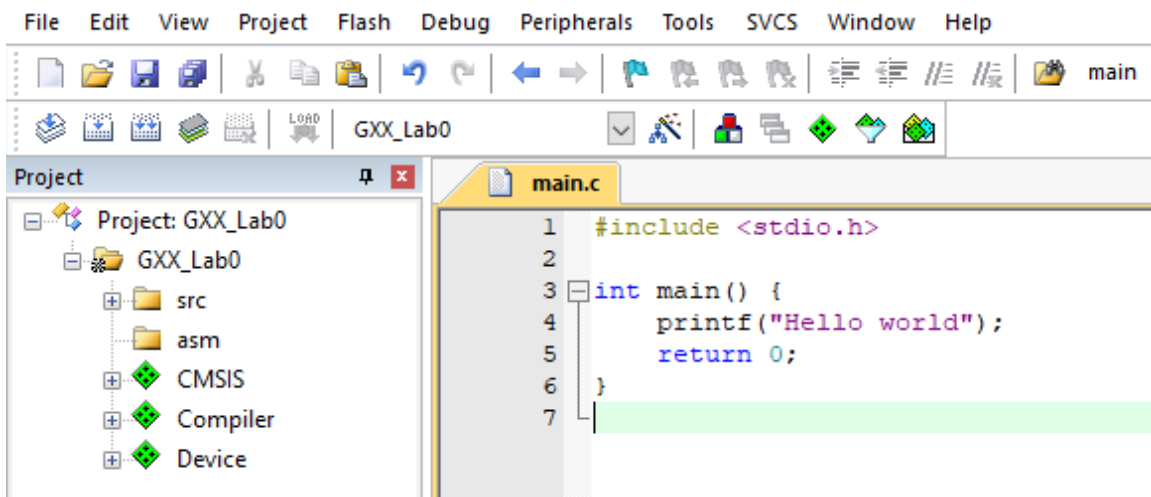

Figure 14: “Hello world” program code.
2. Write the “Hello world” program as shown in Figure 14 and save the file.